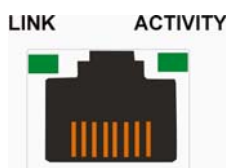

Figure 4-6: LAN Indicators
A shielded Ethernet cable is recommended for connecting the RJ-45 Ethernet management port to a local network after you configure an IP address. This enables you to manage your subsystem via LAN or WAN. Two (2) LEDs on the Ethernet port indicate connection statuses. See *Figure 4-6* for the locations of the LED indicators. Refer to *Table 4-6* for the LED definitions.